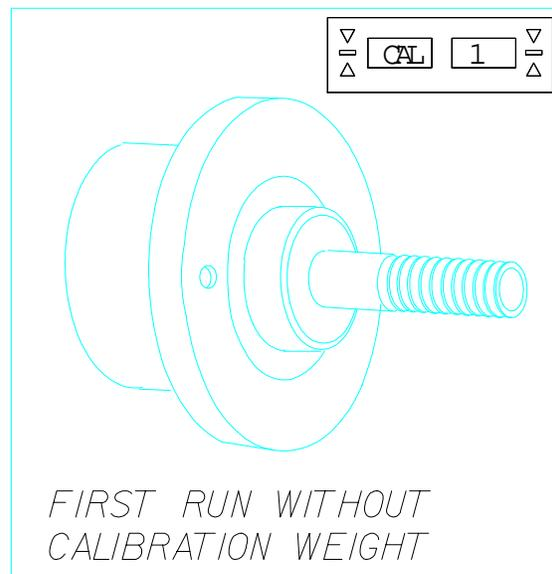

Figure 9
- Press “START”, the machine will spin the shaft for several seconds. On completion of the run the machine stops automatically and Cal 2 is displayed. Figure 9